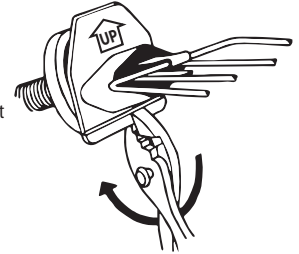

FIGURE 4
a) If the bottom of the plastic plate is bumping into the bottom of the tank surface and preventing the de-icer from laying flush against the drain hole-snap the plastic strip off along the groove as shown in figure 4. If breaking this strip was necessary then you must also take a knife and cut the overlapping piece of gasket.